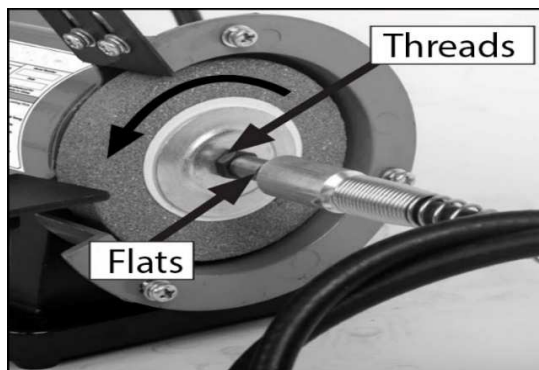

Figure 15
2. Remove cover and screw or thread rotating shaft onto spindle located on the right-hand side of the grinder. (See figure 15)